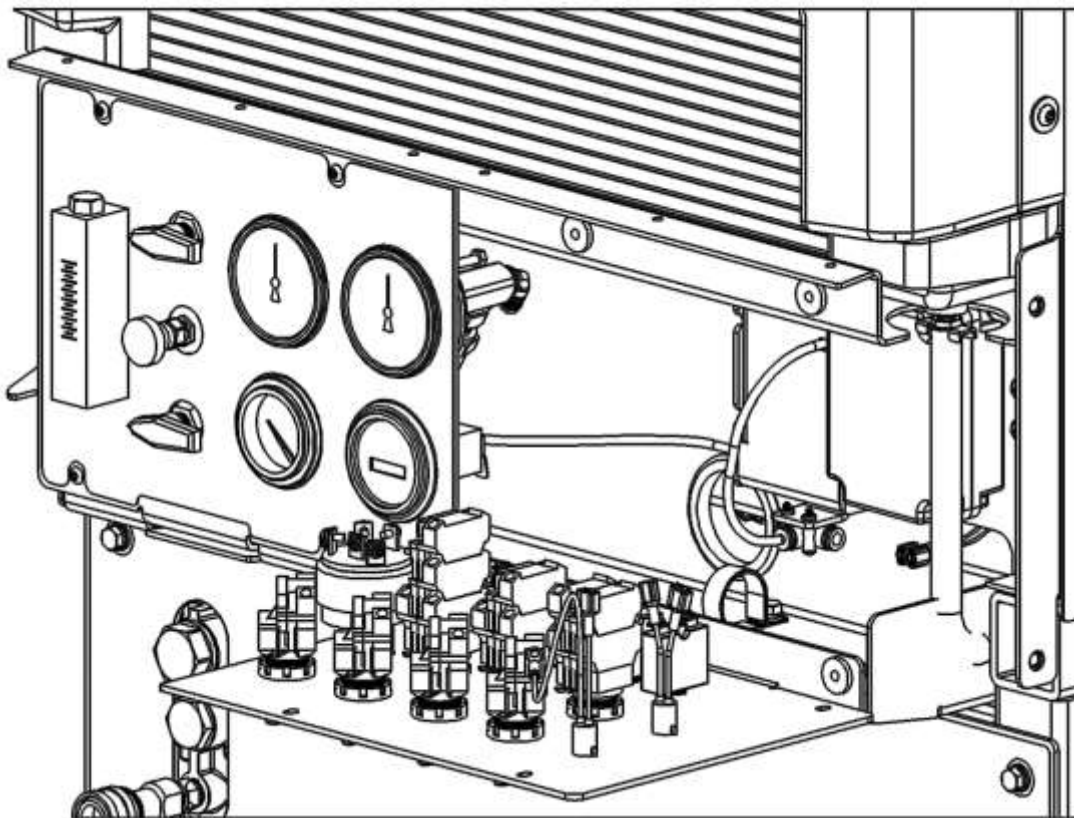

Figure 3 – Electrical side instrument panel access
3. You can now fold down the electrical right-side of the panel to access the wiring harness, Thermallogic control box and E-Idle™ control box (shown in Figure 3). Do not fold down the left gauge/chemical side of the panel without first folding down the right electrical side.